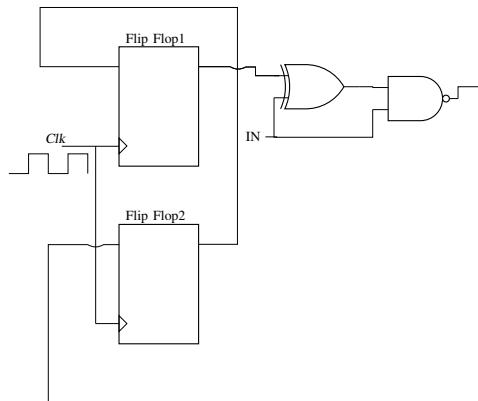

Fig. 6.14
10. Find the states in Fig. 6.14.